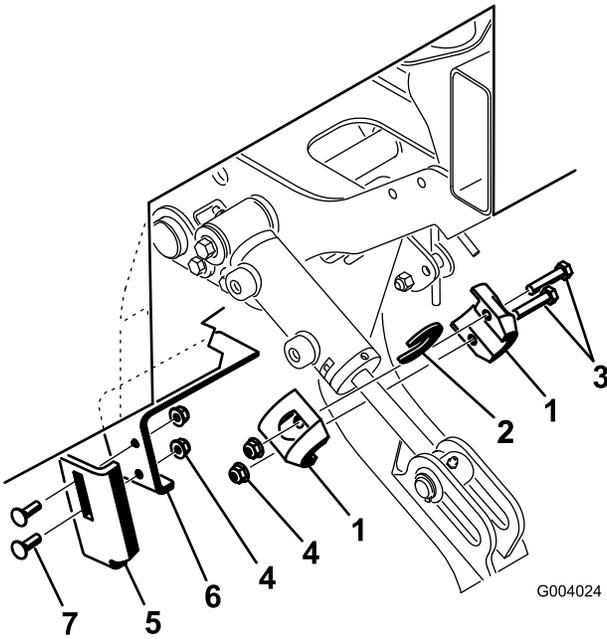

Figure 2
2. Install the cylinder collars to the extended cylinder rod with 2 bolts and 2 flange locknuts (Figure 2). Make sure that the cylinder collars fit over the top of the cylinder.
3. Loosely install the stop bracket to the deflector bracket with 2 carriage bolts and 2 locknuts (Figure 2).
4. Move the stop bracket to the highest position on the bracket and tighten the flange locknuts (Figure 2).
2. Install the cylinder collars and the spacer to the extended cylinder rod with 2 bolts and 2 flange locknuts (Figure 2).
4. Move the stop bracket to the lowest position on the bracket and tighten the flange locknuts (Figure 2).